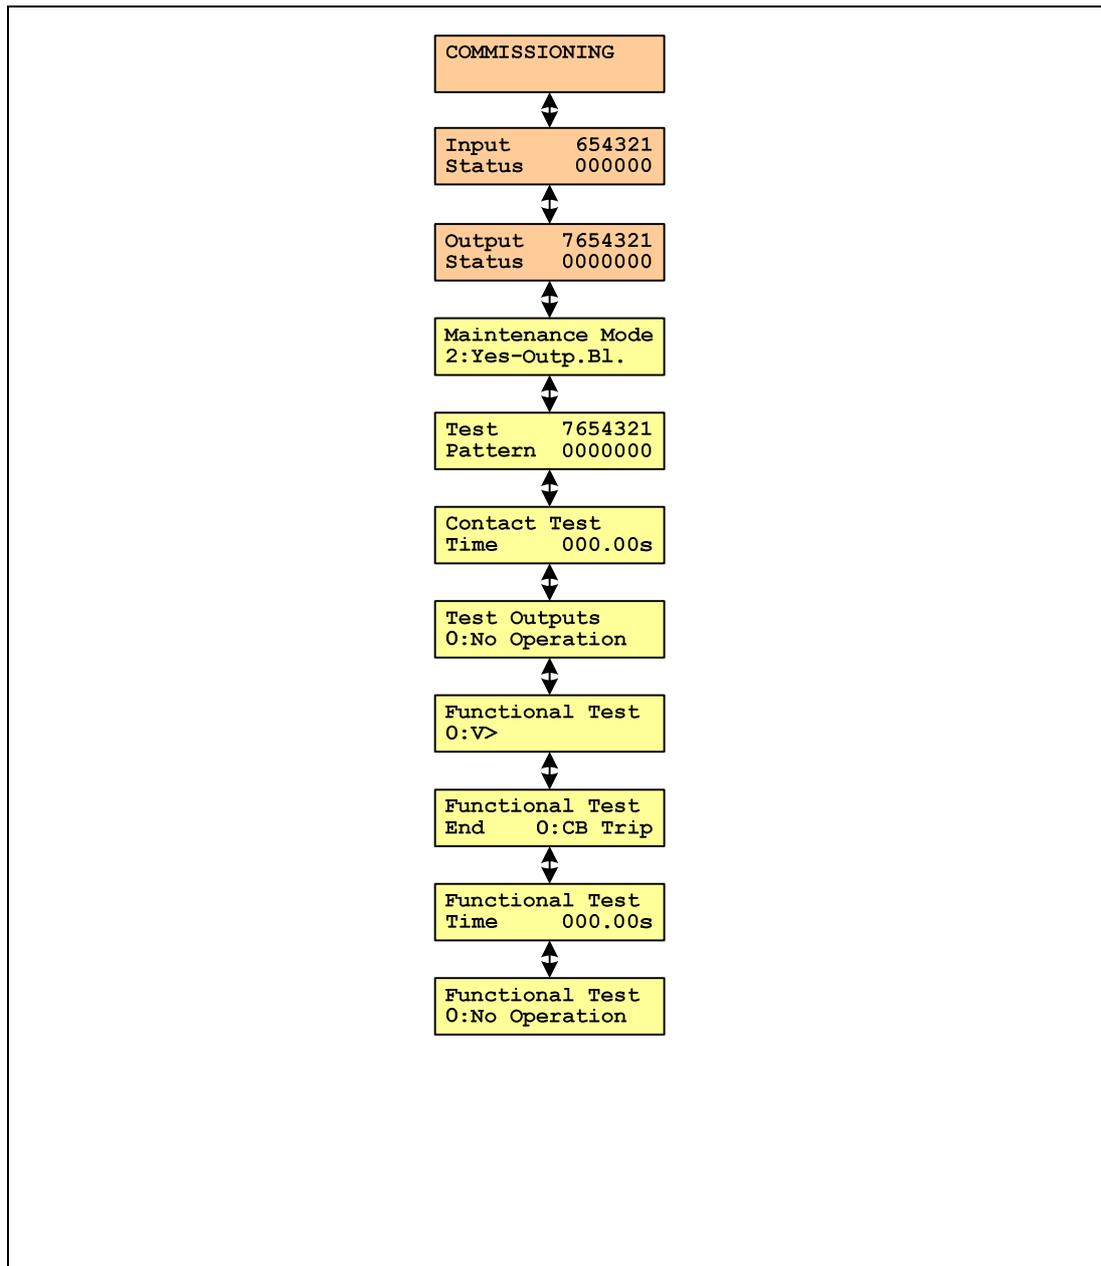

Figure 7: COMMISSIONING column
- “**Yes, outp. trips**” - **Maintenance mode** is enabled. In this mode all test cells in **COMMISSIONING** column are available (see Fig.7 below). During tests outputs are energized.
- “**Yes, outp. block**” - **Maintenance mode** is enabled and all test cells in **COMMISSIONING** column are available (see Fig.7 below). In this mode, the high state of output functions are ignored (control of outputs are blocked).